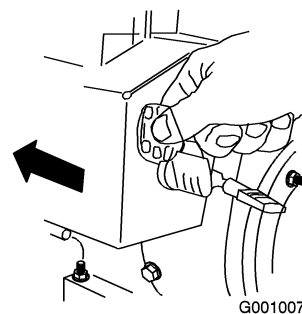

Figure 23
5. Insert the ignition key (Figure 23).